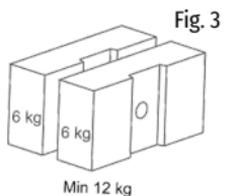

Fig. 3
- 2 pcs 12 Kg Weight Tension Pulley Fig 3